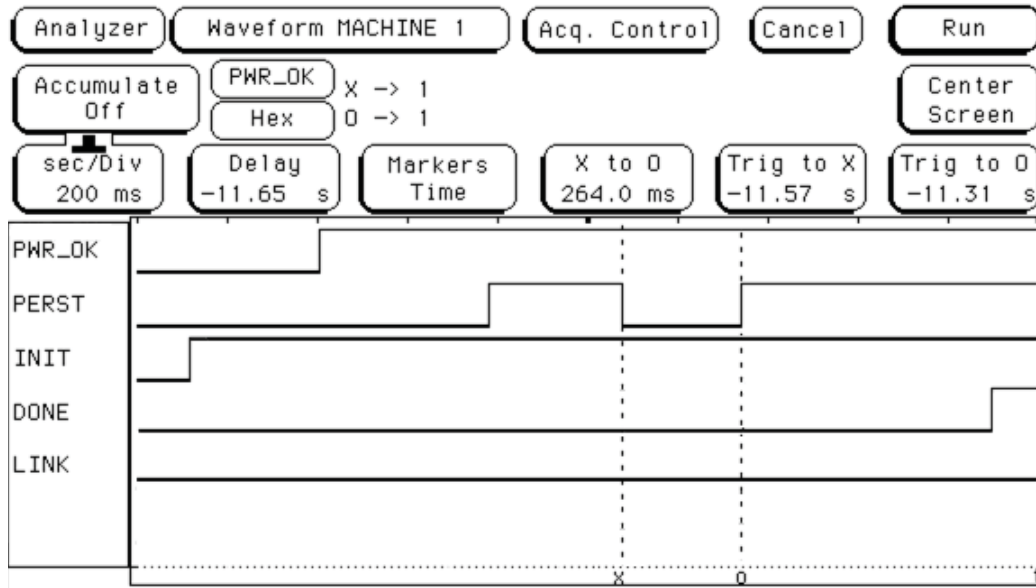
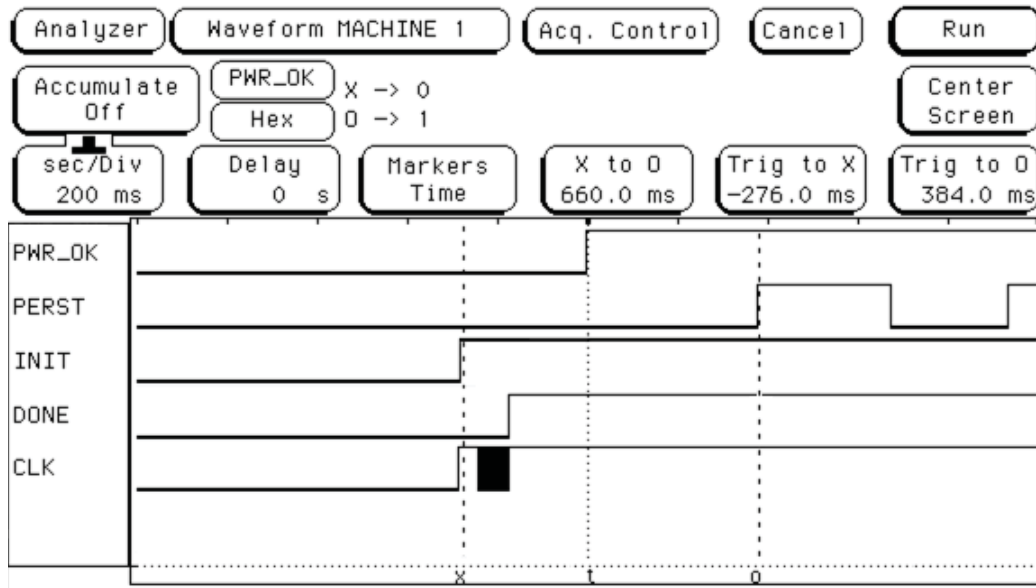

Figure 3-93: Host Fails to Recognize FPGA Due to Slow Configuration Time
Figure 3-94: Host Successfully Recognizes FPGA
This section presents data from an ASUS PL5 system to demonstrate the relationships between Power Valid, FPGA Configuration, and PERST#. Figure 3-93 shows a case where the Endpoint failed to be recognized due to a FPGA configuration time issue. Figure 3-94 shows a successful FPGA configuration with the Endpoint being recognized by the system.
Figure 3-93 illustrates an example of a cold boot where the host failed to recognize the Xilinx FPGA. Although a second PERST# pulse assists in allowing more time for the FPGA to configure, the slowness of the FPGA configuration clock (2 MHz) causes configuration to complete well after this second deassertion. During this time, the system enumerated the bus and did not recognize the FPGA.
Figure 3-94 illustrates a successful cold boot test on the same system. In this test, the CCLK was running at 50 MHz, allowing the FPGA to configure in time to be enumerated and recognized. The figure shows that the FPGA began initialization approximately 250 ms before PWR\_OK. DONE going High shows that the FPGA was configured even before PWR\_OK was asserted.
1. Check if the motherboard and BIOS generate multiple PERST# pulses at start-up. This can be determined by capturing the signal on the board using an oscilloscope. This is similar to what is shown in Figure 3-93. If multiple PERST# pulses are generated, this typically adds extra time for FPGA configuration.